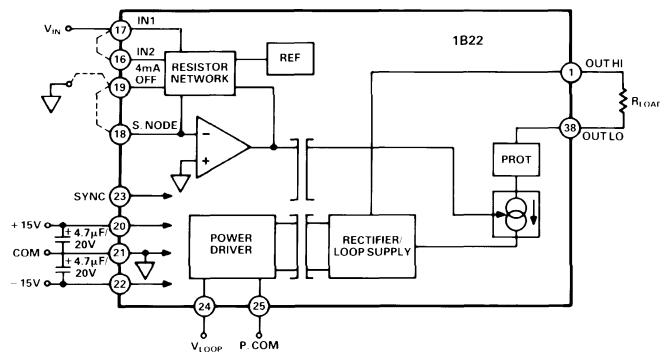
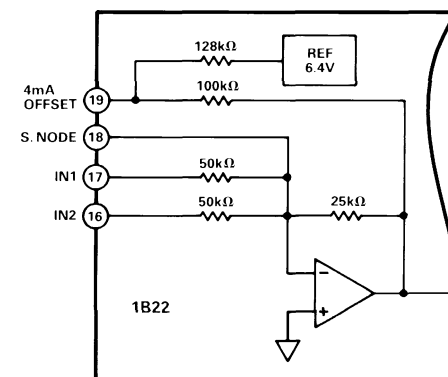

Figure 2. Basic Interconnections
Figure 3. Internal Resistor Network
**Basic Interconnections:** The 1B22 may be applied to achieve rated performance as shown in Figure 2. For 0 V to 10 V signals either IN1 or IN2 can be used for input; for 0 V to +5 V signals jumper IN1 to IN2. Similarly, for 4 to 20 mA output the 4 mA OFFSET node should be jumpered to the S. NODE, while for 0 to 20 mA it should be tied to COM. Figure 3 shows the functional diagram of the resistor network used in the 1B22.